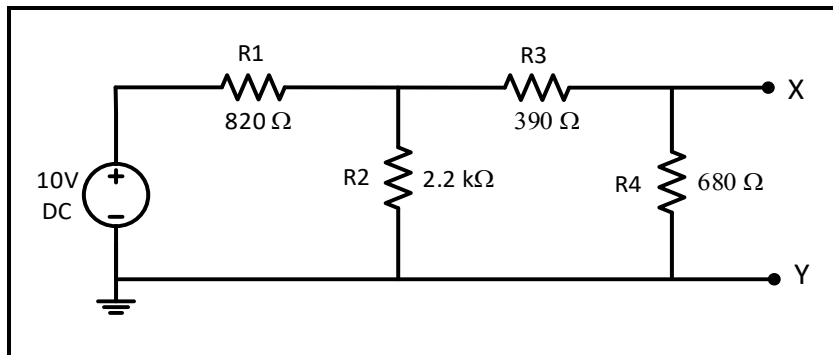
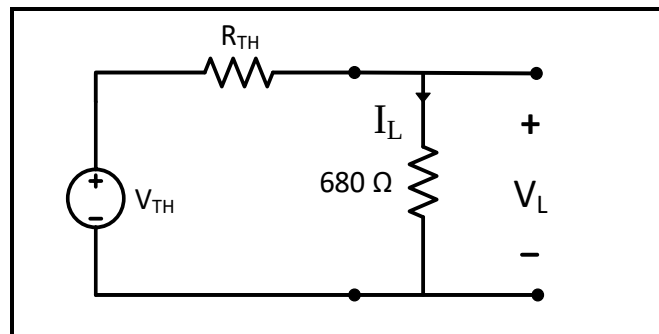

Figure 4.5
Figure 4.7
1. Find and draw the Thevenin equivalent with respect to the terminals X, Y for the circuit in Figure 4.5 (**Show calculation of $V_{Thevenin}$ and $R_{Thevenin}$**).
2. Simulate the circuit of Figure 4.5 using PSPICE to determine the value of voltage around and current through the $680\ \Omega$ resistor.
3. Simulate Thevenin equivalent circuit that you found in step 1 shown in Figure 4.7 using PSPICE to determine the value of voltage around and current through the $680\ \Omega$ resistor.
- Connect the circuit of Figure 4.5 and set the power supply voltage to 10V.
- Based on your calculation of $V_{Thevenin}$ and $R_{Thevenin}$ in your pre lab, connect Thevenin's equivalent circuit for the circuit of Figure 4.5 as shown in figure 4.7 (use decade box for $R_{Thevenin}$), measure the voltage across and the current through the $680\ \Omega$ resistor, record results in Table 4.7.
Question 3: Compare the measured values of load voltage and current in Thevenin's circuit and in the original circuit in figure 4.5. Compare the value of R_{Th} in the three methods of measurement.
1. Connect the circuit of Figure 4.5 (note capacitor polarity), set voltmeter to 20 V range, set ammeter to 200 μA range, and leave the power supply turned off (switch at 0 position).